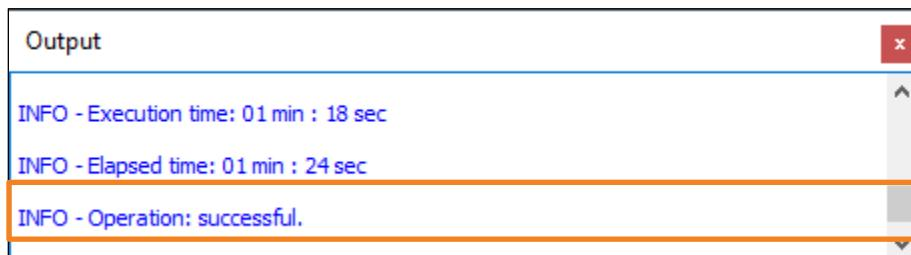

Figure 3.5. Lattice Radiant Programmer Output Window
- Check the **Output** Console at the bottom of Lattice Radiant Programmer for the programming results. You should see **Operation: Successful** as shown in Figure 3.5.